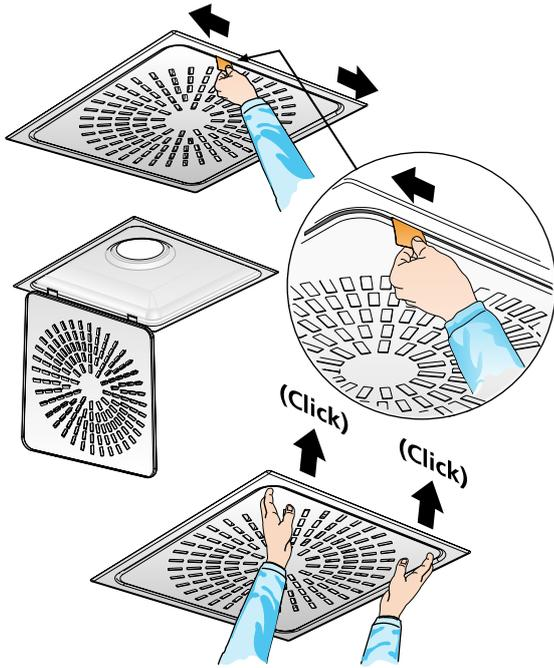

Figure 2. Quick Access, dismantling the diffuser face.
- To dismantle the diffuser face, insert a thin object, for example a Quick Access card, between the diffuser face and the backing box in order to release the springs. Slide the card from the centre out towards the corner, see Figure 2.